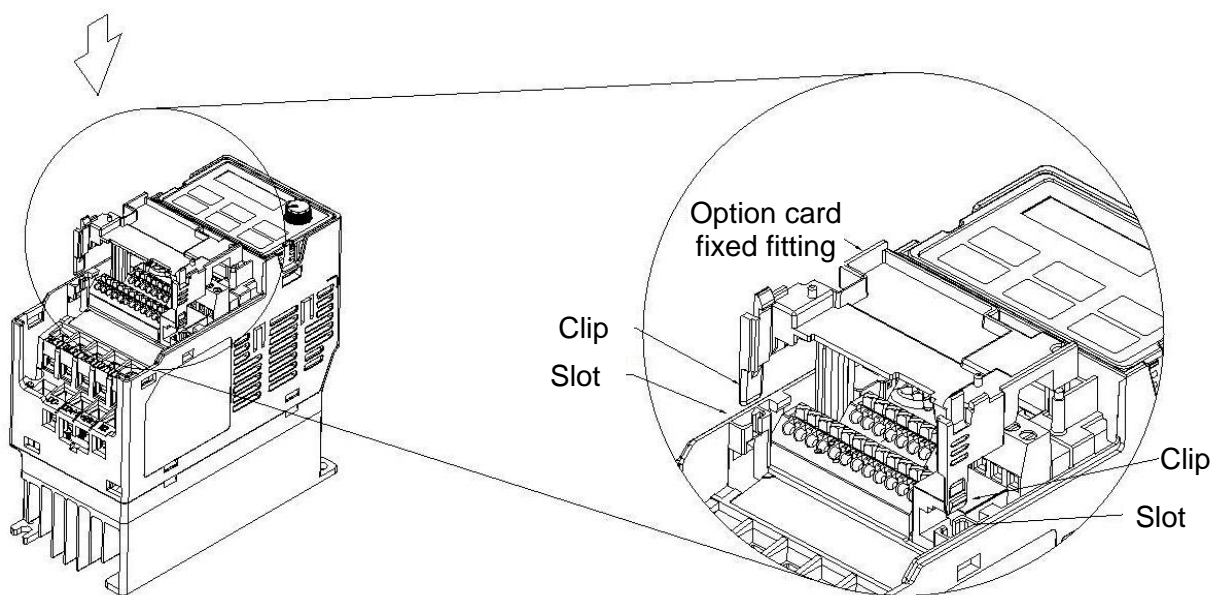

Fig. 8-1
3. As shown in Fig. 8-1, aim the two clips at the option card fixed fitting. Press the fixed fitting to clip the slot.